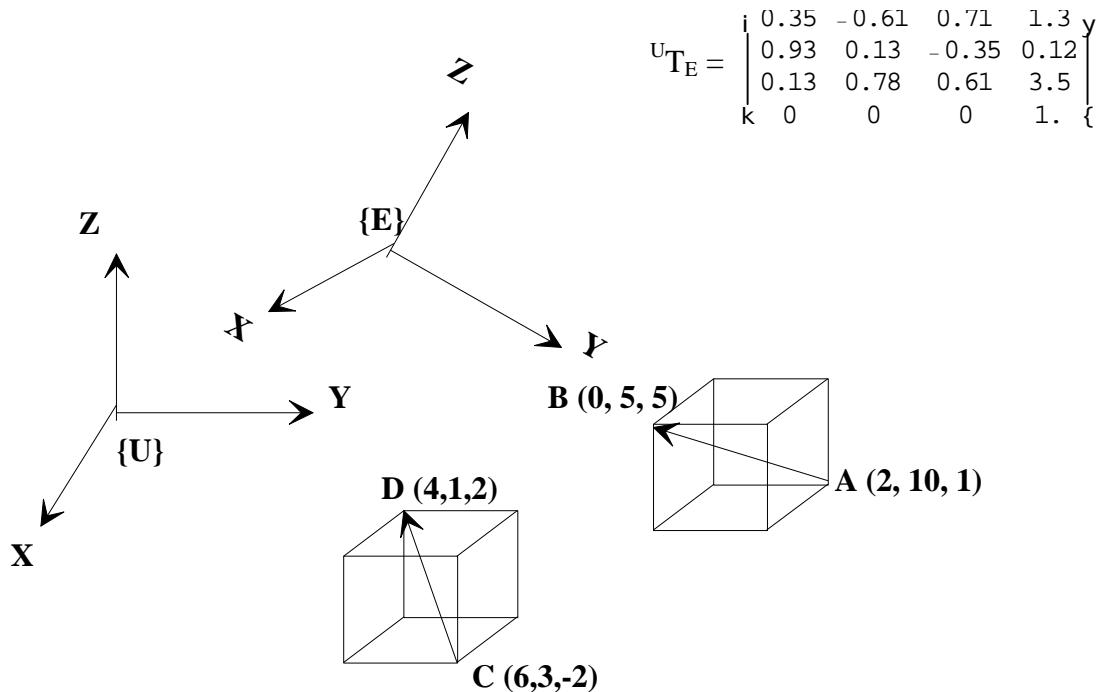

Fig. 1
1. This examination paper contains five (5) questions in 2 Sections, and comprises seven (7) pages.
Q.1. In Figure 1, the cuboids have faces parallel to the coordinate planes of Frame U. The coordinates of the labeled corners of the cubes are with respect to Frame U. Frame E is positioned and oriented with respect to Frame U according to  ${}^U T_E$ , as given in Figure 1.
(b) At the instant shown in Figure 1, Frame E is translating along axis AB at 2 units/sec, while axis AB is rotating about axis CD at 30 deg/sec. Determine the translational velocity of Frame E with respect to Frame U. (10 marks)